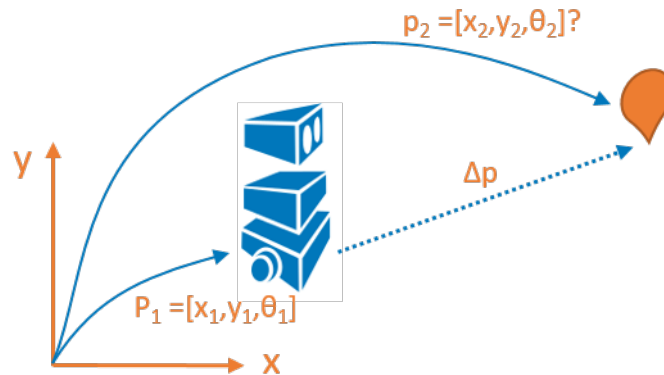

Fig. 1: Example of an initial 2D robot pose ( $p_1$ ) and its resultant pose ( $p_2$ ) after completing a motion ( $\Sigma p$ ).
- **2D pose:** In most cases involving mobile robots, the location alone is insufficient. We need an additional parameter known as orientation or *bearing*. Therefore, a robot's pose is usually expressed as  $[x, y, \theta]^T$  (see Fig. 1). *In the rest of the book, we mostly refer to this one.*